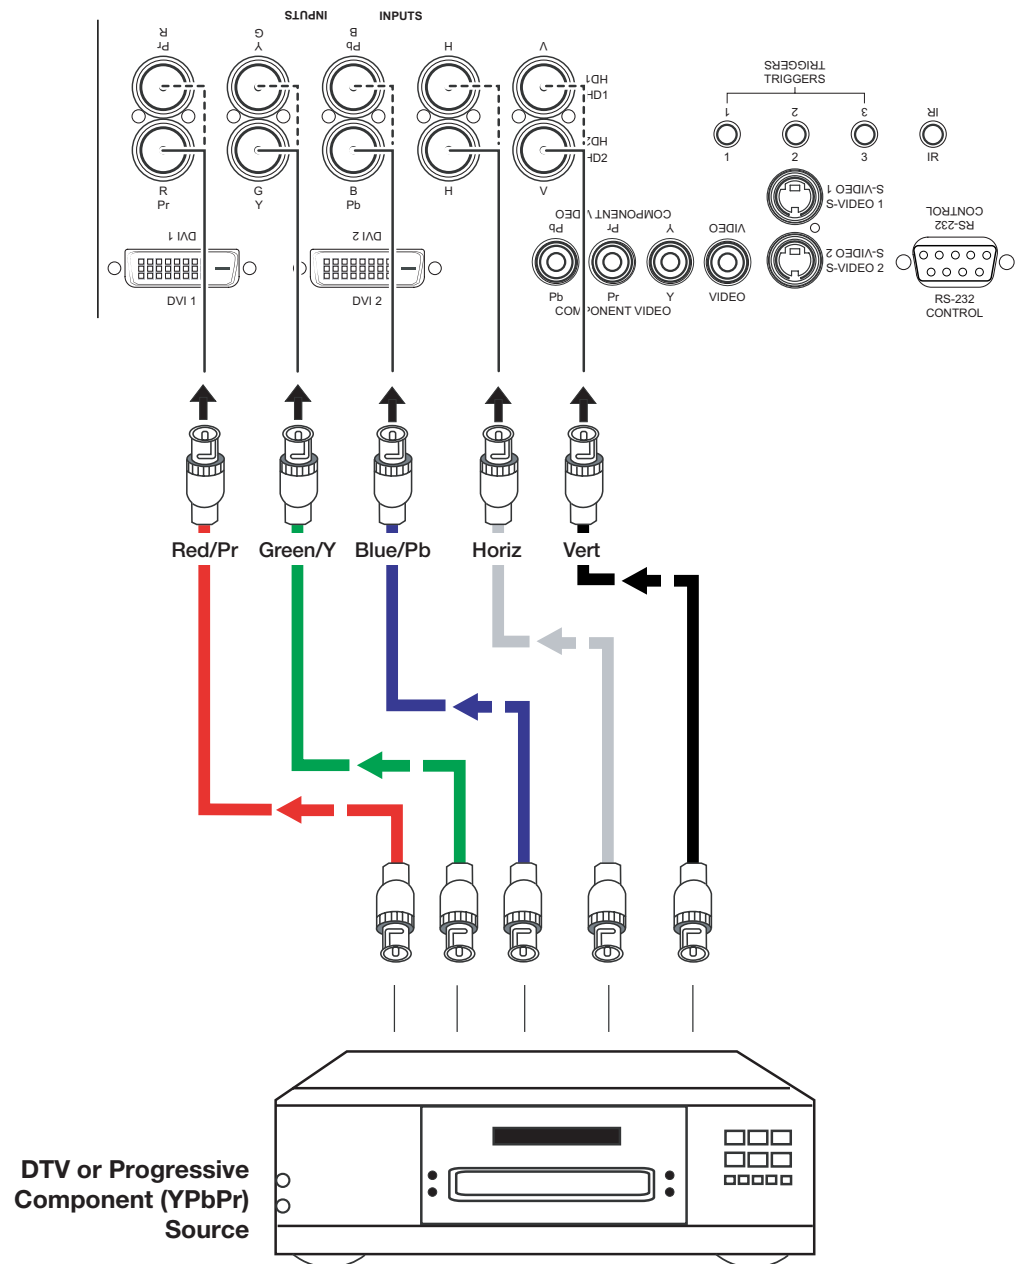

**Figure 3-7. Digital (DTV) RGB Connections**
**Digital (DTV) RGB Connections:** See Figure 3-7.